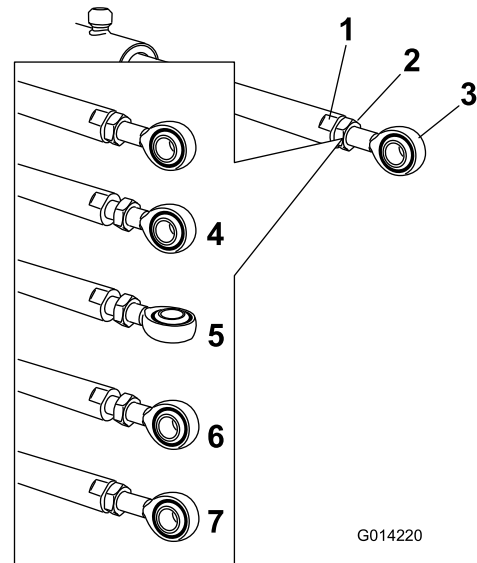

**Figure 109**
- Remove the cotter pin from the pivot pin (Figure 109).
- Lift up on the boom and remove the pin (Figure 109), and slowly lower the boom to the ground.
- While holding the boom, insert the pin through both boom pivot and actuator rod (Figure 109).